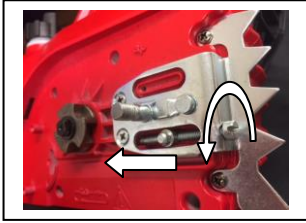

Fig.5
6. Rotate the chain tensioning screw anti-clockwise (Fig.5) to move the tensioning lug to the rear half of the slot.